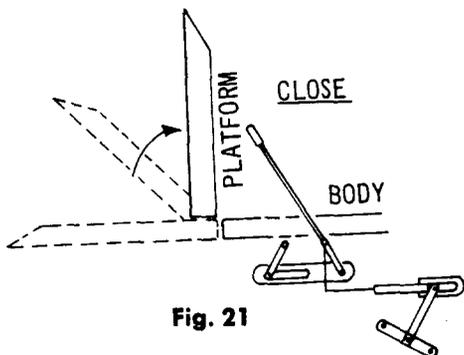

Fig. 21
15.04 "Open" position of control lever is same as "raise" position. Release lever when platform reaches level of truck body. If desired to close platform again from this position, proceed as in 15.03 and Fig. 21.